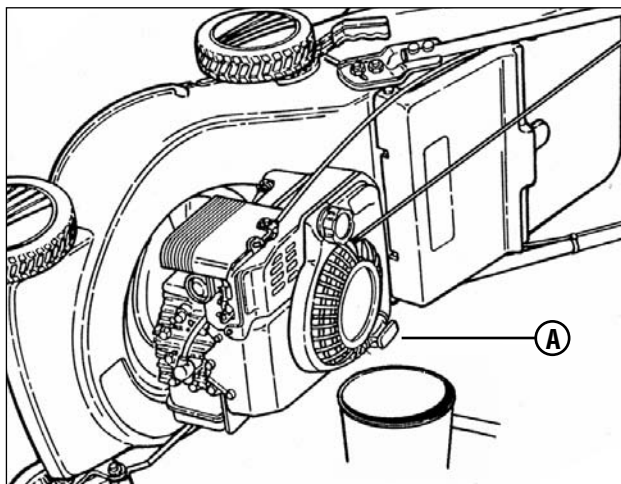

Figure 9: Draining the engine oil
2. Tip the mower on its side, with the oil fill (A, Figure 9) down. Do not tip the mower with the spark plug or carburetor down.